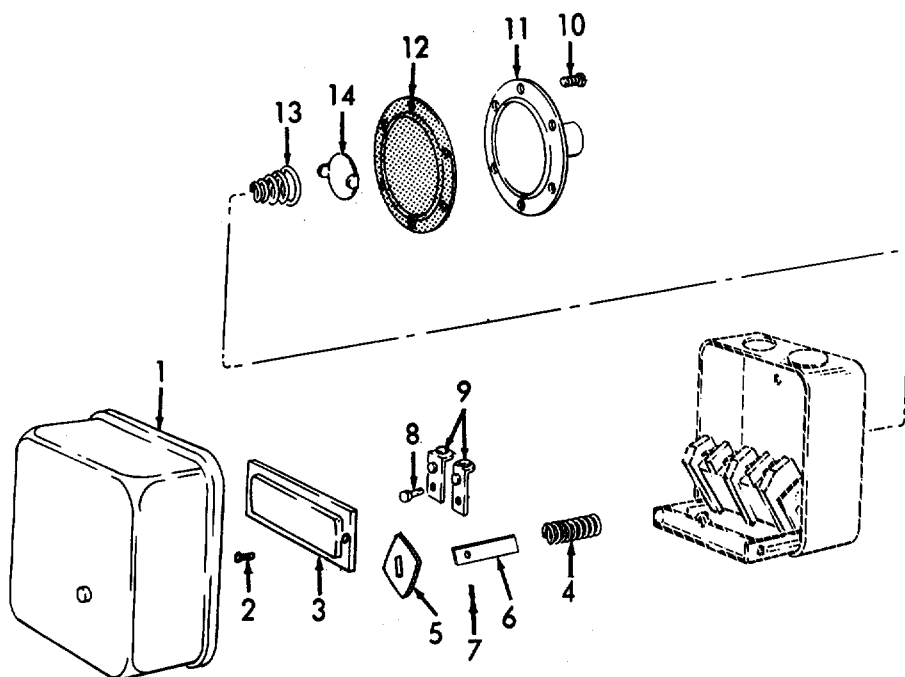

Figure 3-8. Pressure Switch Repair.
(1) Inspect for missing or damaged hardware.
(2) Inspect pressure switch for damage.
d. Repair. Repair of the pressure switch is limited to the replacement of the component parts contained in the pressure switch repair kit (refer to TM 5-4310-377-23P) . Refer to Figure 3-8 and proceed as follows to repair the pressure switch.